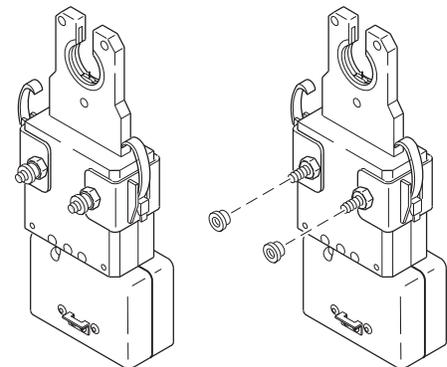

Figure 23 Storing the Thumb Nuts on the Adapter Screws
6. Secure the weld head using the two knurled thumb nuts supplied with the bench mounting bracket. Keep the thumb nuts on the adapter screws when not using the bench mount bracket. See Figure 23.